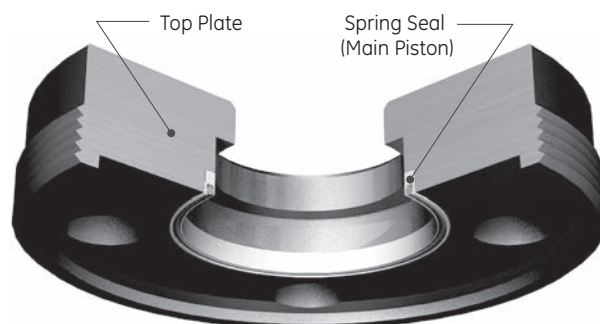

Figure 60: Top Plate (39PV07)
- a. Lubricate the Spring Seal (Main Piston) and Top Plate gland. Install the Spring Seal (Main Piston) into Top Plate. The spring should be oriented as shown in Figure 60.